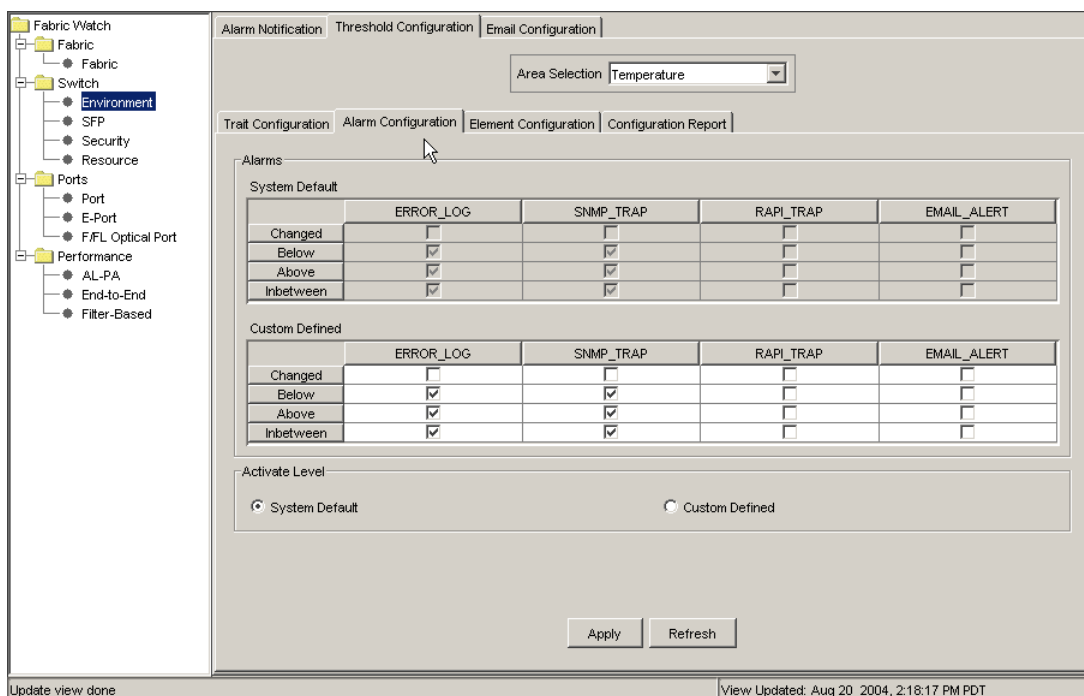

Figure 121 Alarm configuration tab within the threshold configuration tab
Use the Alarm Configuration tab (see Figure 121) to set the type of notification method you want to use for each event type. Table 46 lists and describes the components of the Alarm Configuration tab.
After you update the threshold information, use the Alarm Configuration subtab (see Figure 121 on page 182) to customize the notification settings for each event setting.
3. Select the **Alarm Configuration** subtab (Figure 121 on page 182).